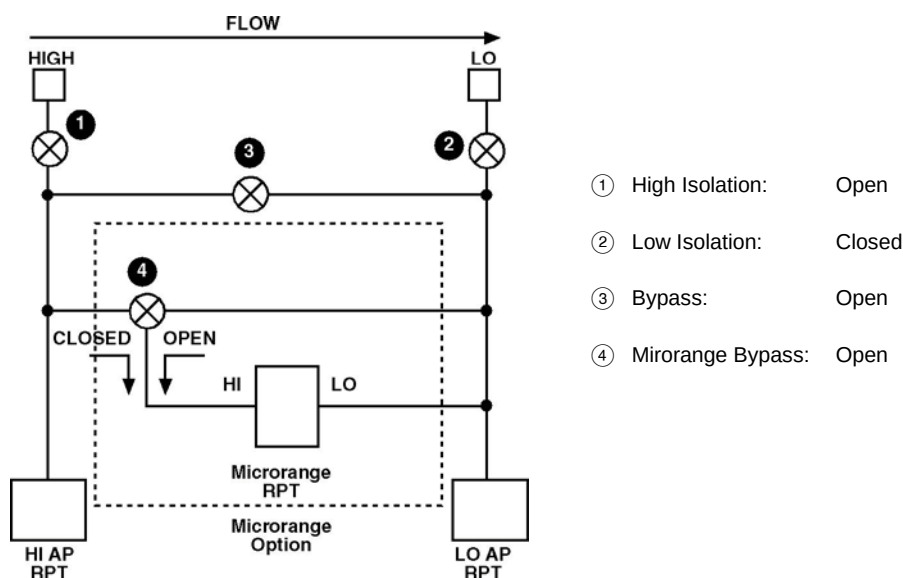

Figure 15. molbox RFM
- ❶ Set the molbox RFM on a stable surface near the calibration standard at a height as close as possible to the calibration standard's reference height. Consider the connections that need to be made to the molbox RFM rear panel pressure quick connectors and access to the front panel display and keypad.
- ❷ Connect the calibration standard output to the molbox RFM rear panel UP (HI) port. In the run calibration mode (see Section 5.2.4.1), both absolute RPTs are connected to the UP (HI) port and isolated from the DOWN (LO) port (see **Figure 15**). Use one of the quick connector stems (Fluke P/N 3068652), equivalent to Swagelok SS-QM2-S-200) supplied with the molbox RFM accessories to make the connection. The fitting on the quick connector stem that must be mated to is a compression type for 1/8 in. tube.
If the selection was <1upstrm> or <2dnstrm>, molbox RFM's internal valves operate to connect both absolute RPTs to the upstream pressure port (see **Figure 15**).